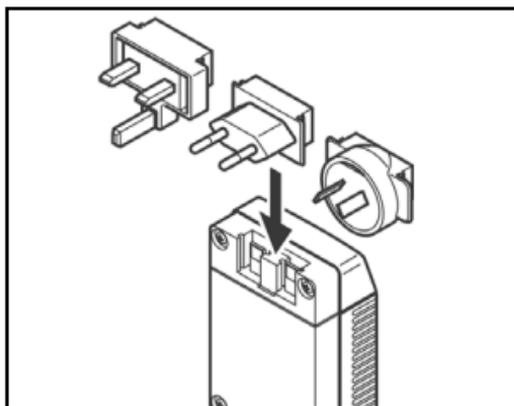

Fig. 5 SNT-121A Adapter/Charger.
3. Slide a different AC line plug adapter into the slot (see Fig. 5).